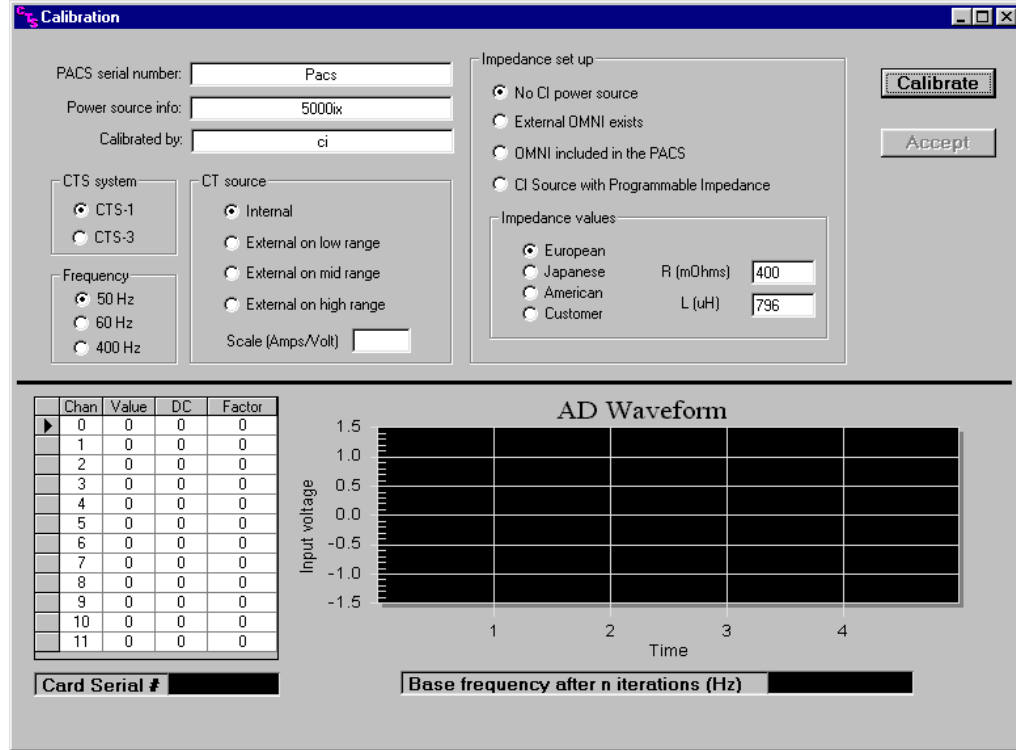

Figure 17-1 : CTS 3.0 Calibration Program Main Screen
1. Start the Calibration module located in the **Compliance Test System** Program group called **Calibration** (See Figure 17-1).